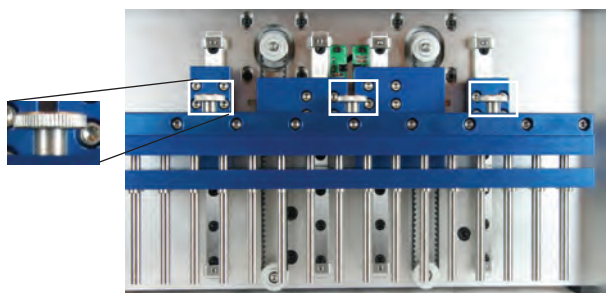

Figure 6. The thumbscrews on the top of the magnetic rod assembly.
3. Unscrew and remove the three thumbscrews on top of the magnetic rod assembly (Figure 6).